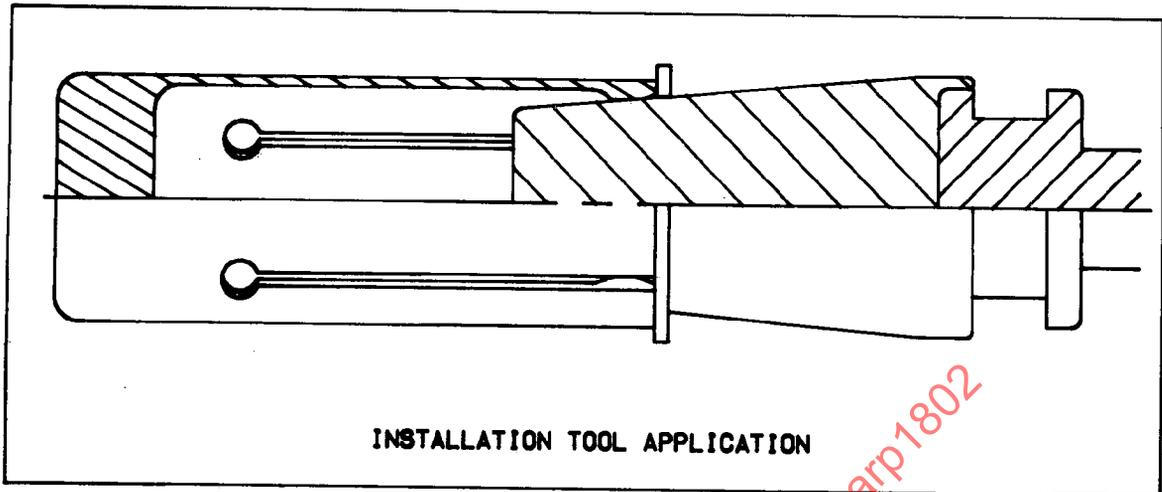

FIGURE 16
8.3 **Installation:** It is usually advantageous to install these backup rings before fitting the O-ring to the groove. For O.D. piston applications, unless two-piece glands are used, they must be stretched into place and usually sized to correct for the distortion during installation. Special tools are required for O.D. piston installations as indicated by Figures 16 and 17.